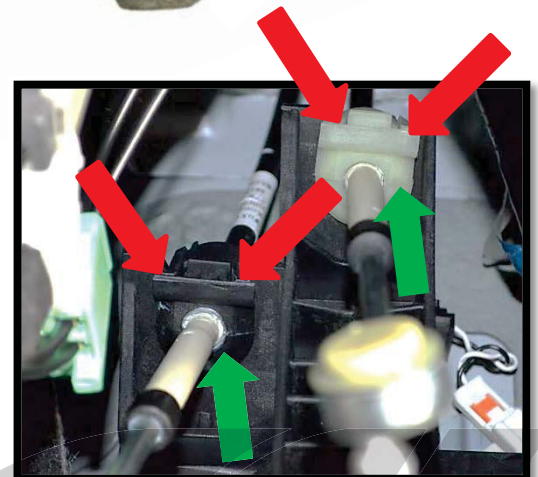

Figure 1e
- e) **Remove the shifter cables from the shifter housing.** Squeeze together the two locking tabs and slide the cable upwards out of the shifter housing (**Figure 1e**).
- e) Remove the shifter cables from the shifter housing. Use a small pair of needle nose pliers to gently squeeze together the two locking tabs (red arrows in Figure 1e) and slide the cable upwards out of the shifter housing (green arrows in Figure 1e).